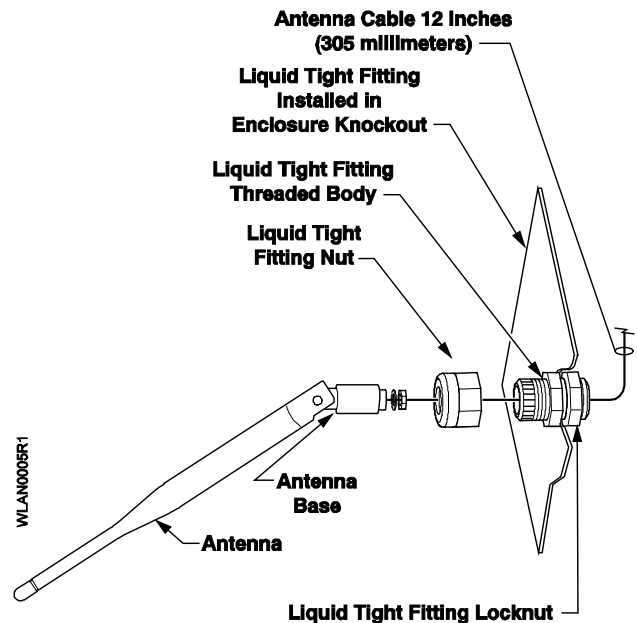

Figure 4. Remote Mount Antenna.
- b. Route the antenna through the body of the liquid tight fitting (Figure 4). Hand-tighten the liquid tight fitting nut to secure the antenna in place.